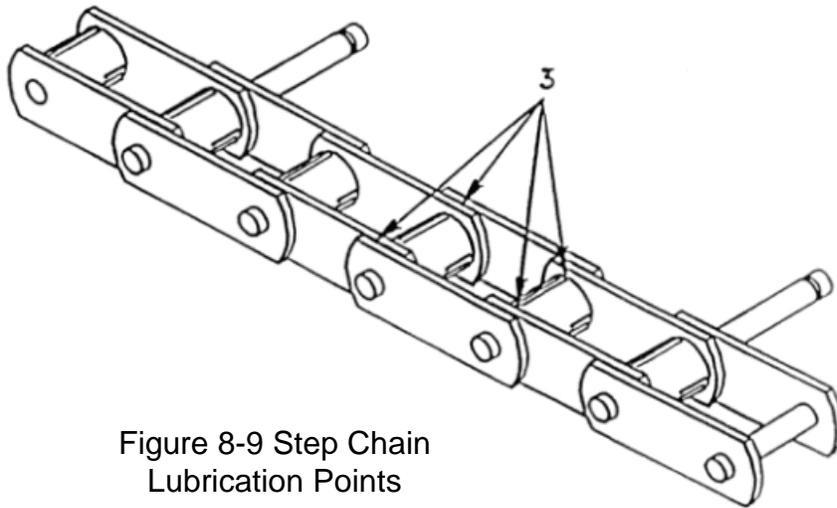

Figure 8-9 Step Chain Lubrication Points
77. The arrows in figure 8-9 below are pointing directly at what areas for lubrication? Between the _____, and between the _____.